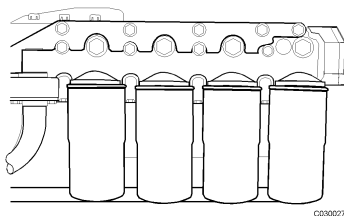

FIGURE 4-1. LUBE OIL FILTERS
- change engine lube oil filters. (Figure 4-1)